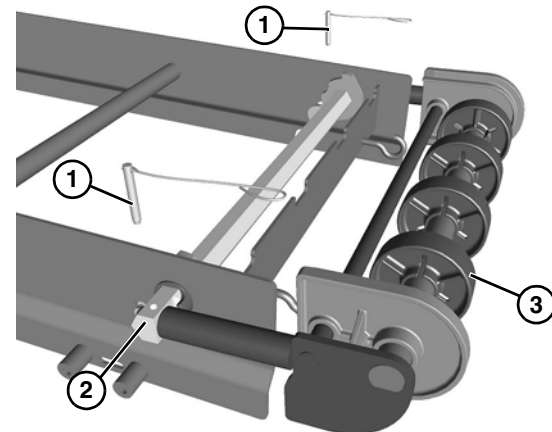

Figure 63
- Remove the pull pins (**Figure 63, item 1**) from tip up hex shaft assembly (**Figure 63, item 2**).
- Slide the idler tail assembly (**Figure 63, item 3**) out of the tip up hex shaft assembly.